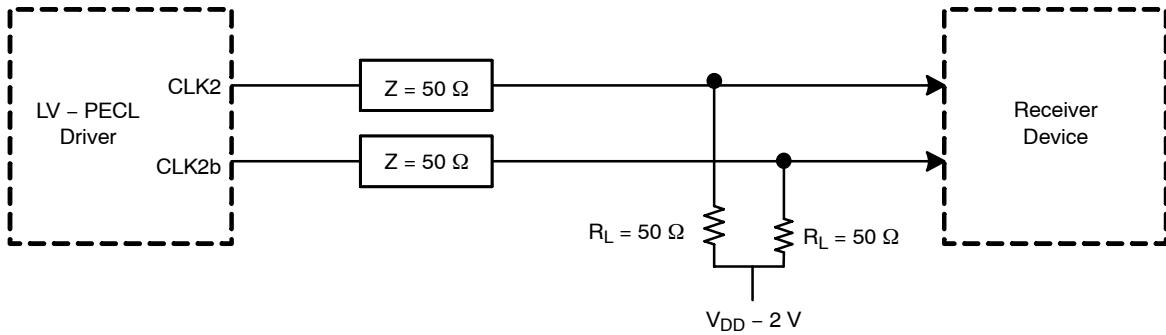

Figure 2. Typical Termination for Output Driver for Device Evaluation
5. Measurement taken with outputs terminated with 50 ohms to $V_{DD} - 2\text{ V}$. See Figure 2.